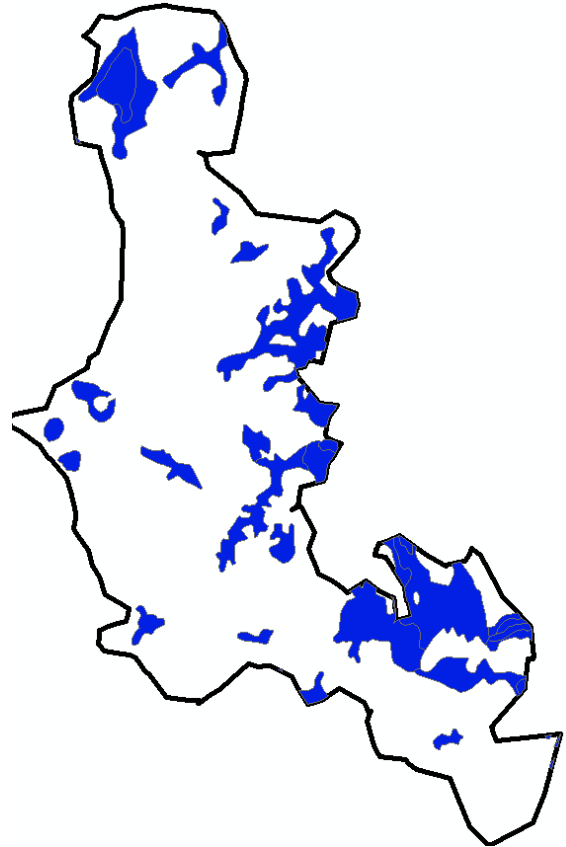

Figure 8. Wetlands over 2 Acres
- Manipulate the display settings so that only wetlands over 2 acres are shown (Figure 8, next page).